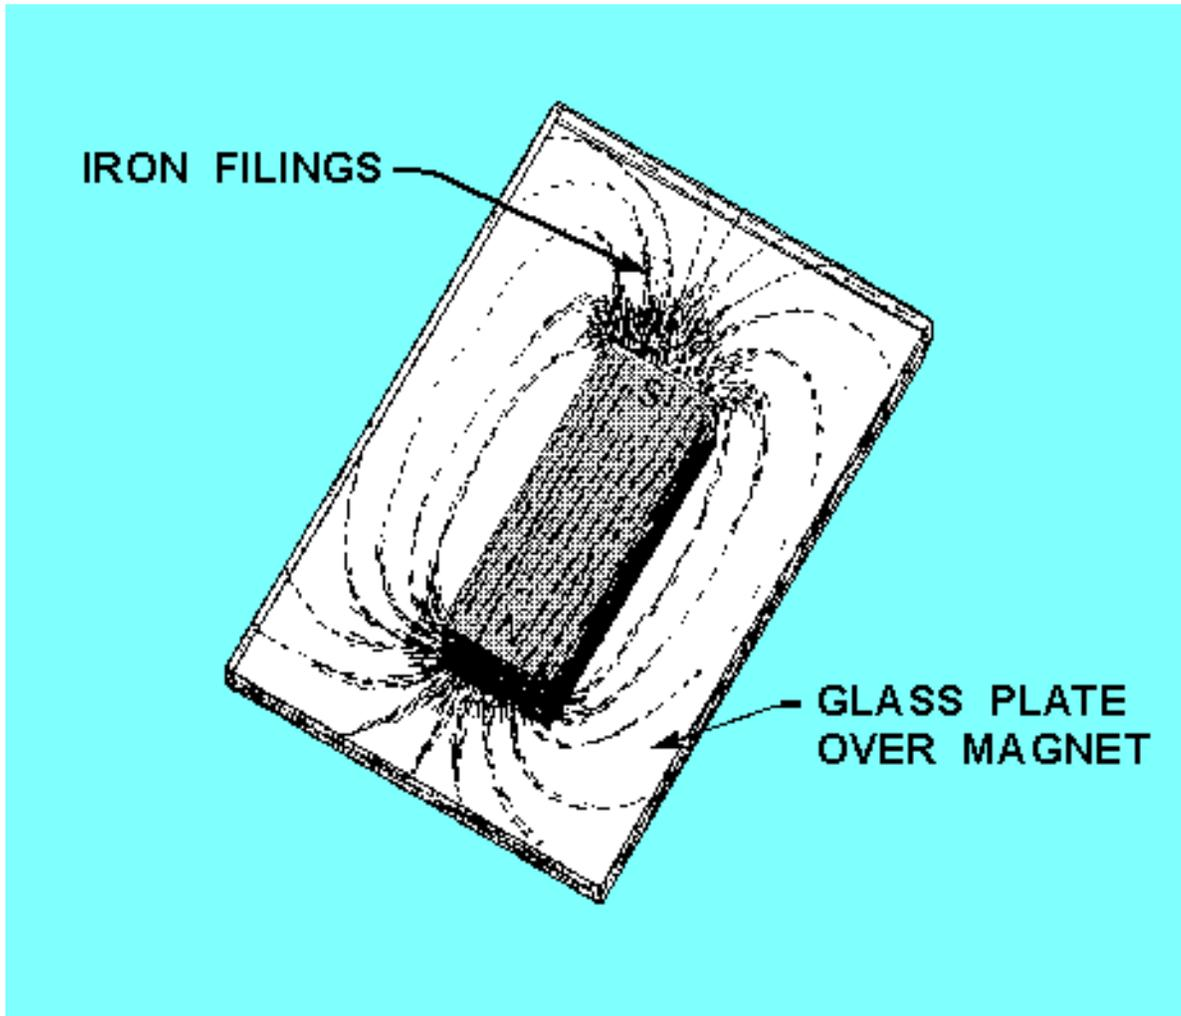

Figure 1-13.—Pattern formed by iron filings.
A pattern of this directional force can be obtained by performing an experiment with iron filings. A piece of glass is placed over a bar magnet and the iron filings are then sprinkled on the surface of the glass. The magnetizing force of the magnet will be felt through the glass and each iron filing becomes a temporary magnet. If the glass is now tapped gently, the iron particles will align themselves with the magnetic field surrounding the magnet just as the compass needle did previously. The filings form a definite pattern, which is a visible representation of the forces comprising the magnetic field. Examination of the arrangements of iron filings in figure 1-13 will indicate that the magnetic field is very strong at the poles and
- Q27. Refer to figure 1-13. For what purpose would you sprinkle iron filings on the glass plate?
- Q28. Refer to figure 1-13. What pattern would be formed if sawdust was sprinkled on the glass instead of iron filings?